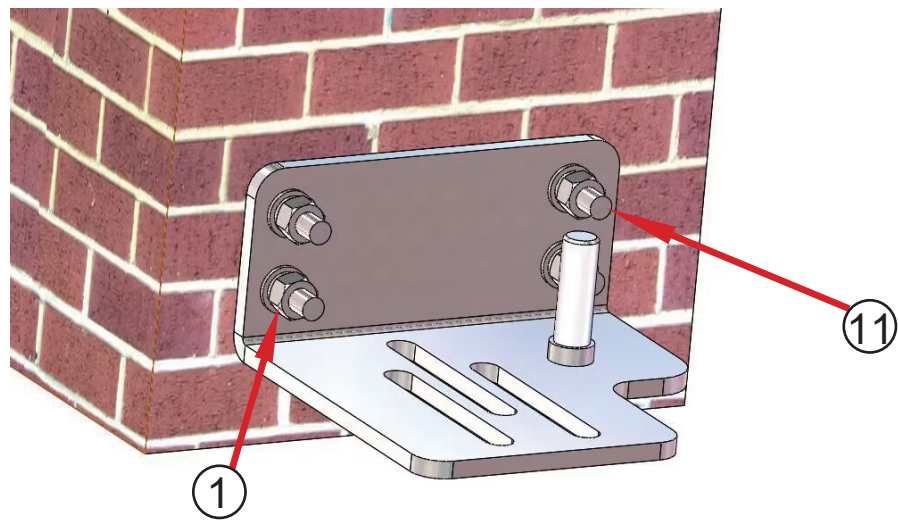

Fig 6
5. Drill the 4 holes at suitable position, and tighten up the ① gate bracket with ⑪ M8*80 expansion bolt as Fig 6.